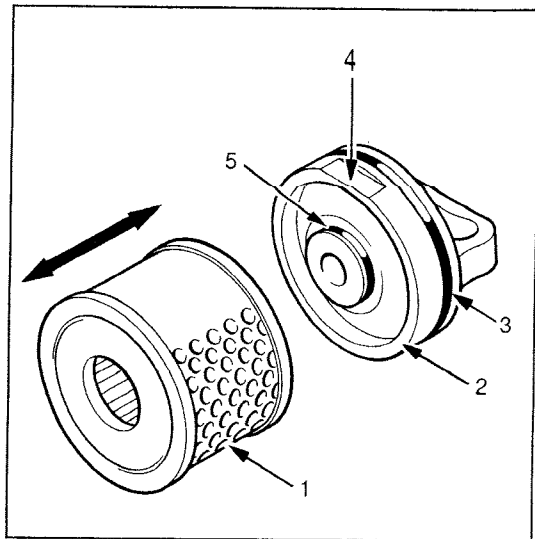
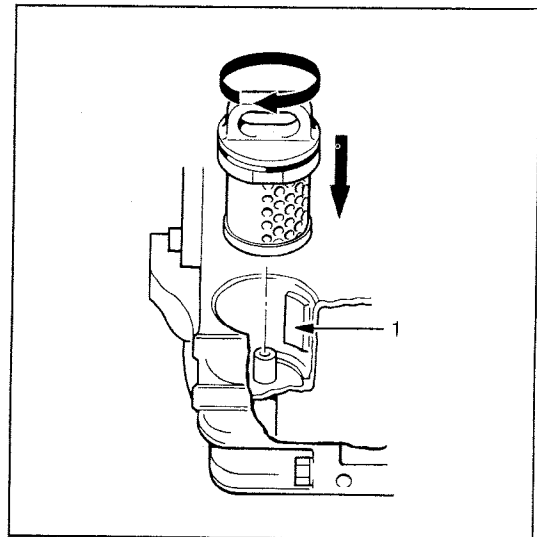

Figure 7
Figure 8
5. Remove filter element (Figure 7, Item 1) from cover (Figure 7, Item 2).
6. Check O-ring (Figure 7, Item 5) and place new filter element onto cover.
7. Check O-ring (Figure 7, Item 3) and insert filter cover with fluid fine filter to its stop into the transmission housing.
When inserting the filter cover, make sure that flat side of cover (Figure 7, Item 4) matches with lug (Figure 8, Item 1) in the filter compartment.